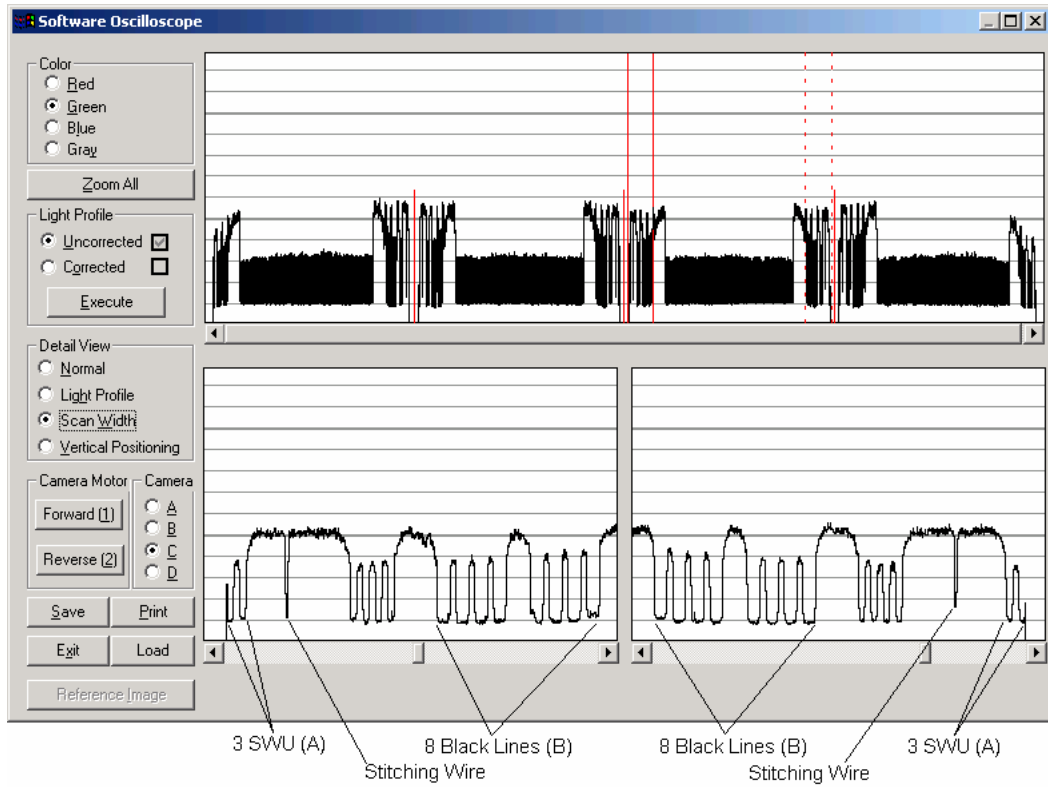

Fig. 4-28 MAGNUM XL 54, Scan-Width, Camera C
- Fig. 4-28 MAGNUM XL 54, Scan-Width (C), page 107